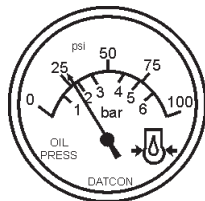

Figure 36. Oil Pressure Gauge
7. The engine oil pressure gauge (Figure 36) will indicate the oil pressure of the engine. Under normal operating conditions the oil pressure is approximately 35 to 65 psi. (241~448 kPa). When starting the generator.